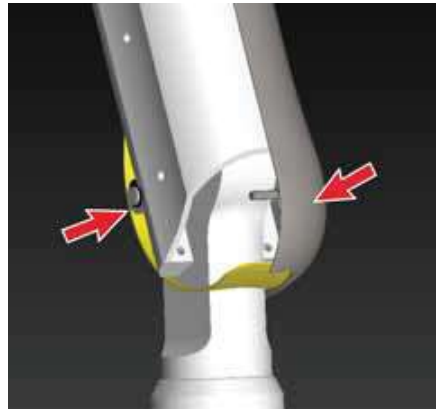

Figure 121
- Take end cap of one side (half) and fix to the scissor-arm such that the rubber part should be aligned in the slot as shown in Figure 121 .